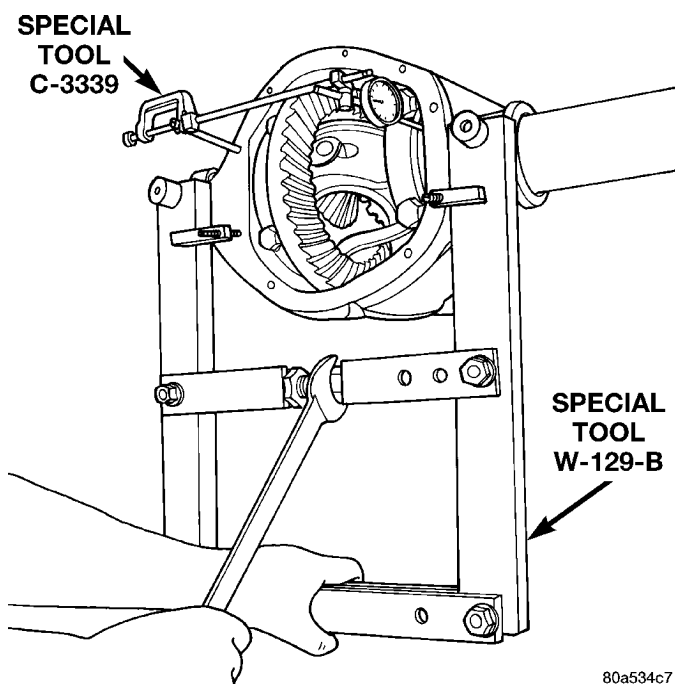

Fig. 30 Spread Axle Housing
(9) Spread the housing enough to remove the differential case from the housing. Measure the distance with the dial indicator (Fig. 30).
(3) Spread the housing enough to install the case in the housing. Measure the distance with the dial indicator (Fig. 30).